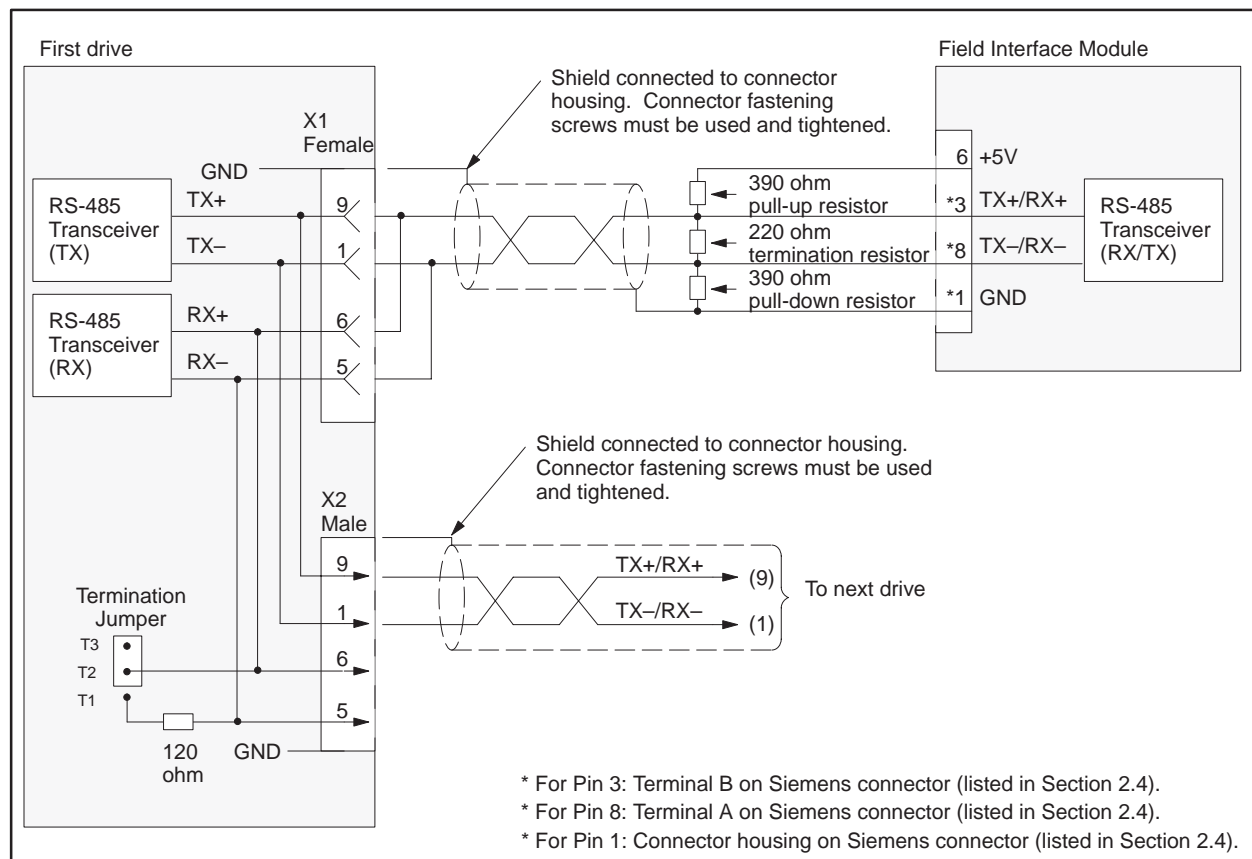
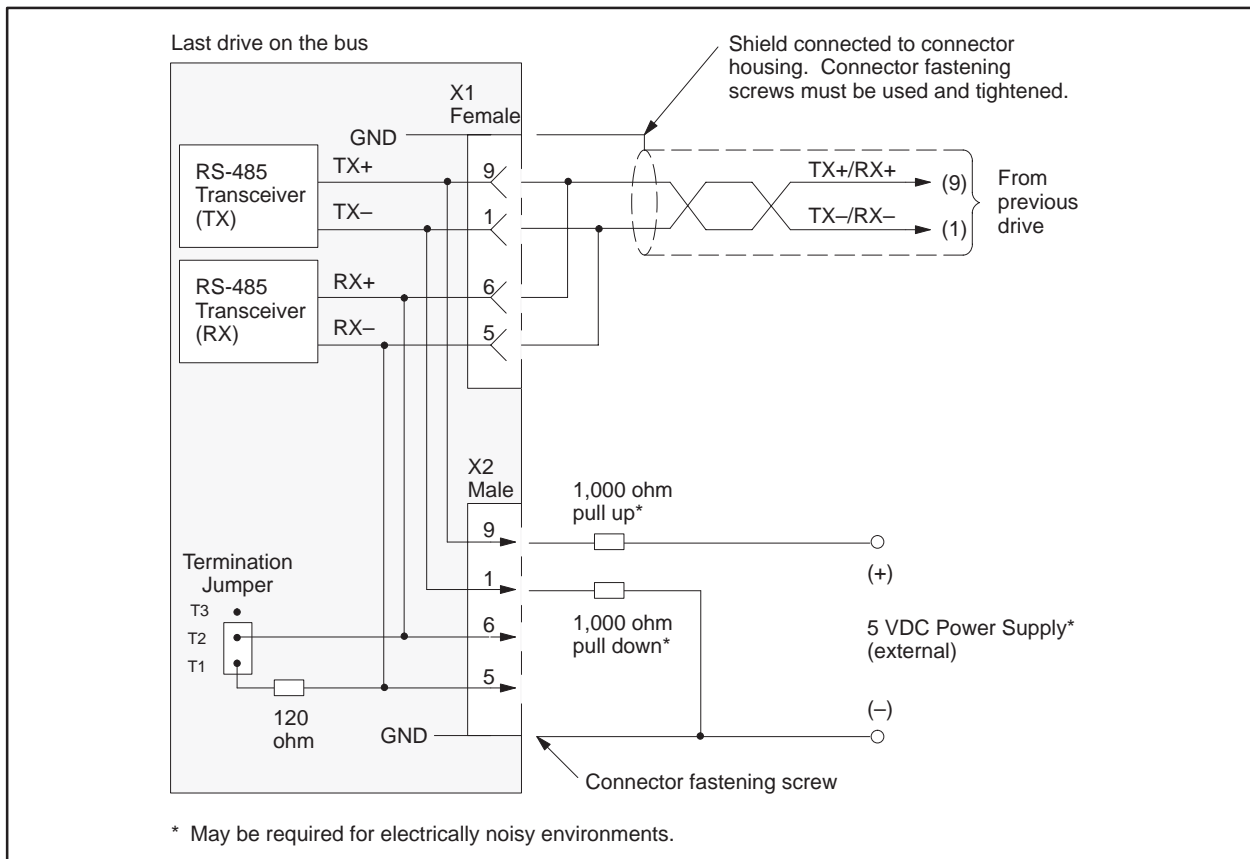

Figure 3-35 Z1006 Wiring: All Drives Except at End of Bus
Figure 3-36 Z1006 Wiring: Drive at End of Bus
- T3 Figure 3-35 and Figure 3-36 show the correct position for this jumper.
Figure 3-35 shows the wiring for all drives except the end of the bus for the SIMOREG Z1006 third generation Coordinated Drive Interface Board.
Figure 3-36 shows the wiring for the drive at the end of the bus for the SIMOREG Z1006 third generation Coordinated Drive Interface Board.